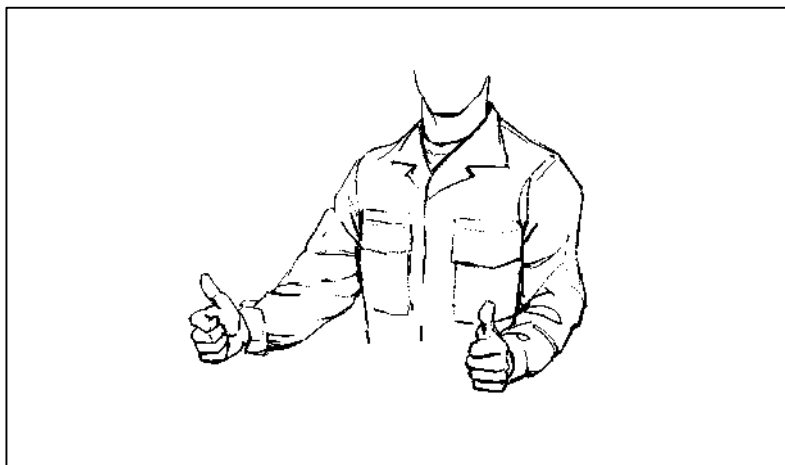

Figure 3-8. Arm-and-hand signal for GET READY.
(1) **GET READY** (Figure 3-8). The rappel master extends both arms to the front with fists clenched and thumbs pointing upward.